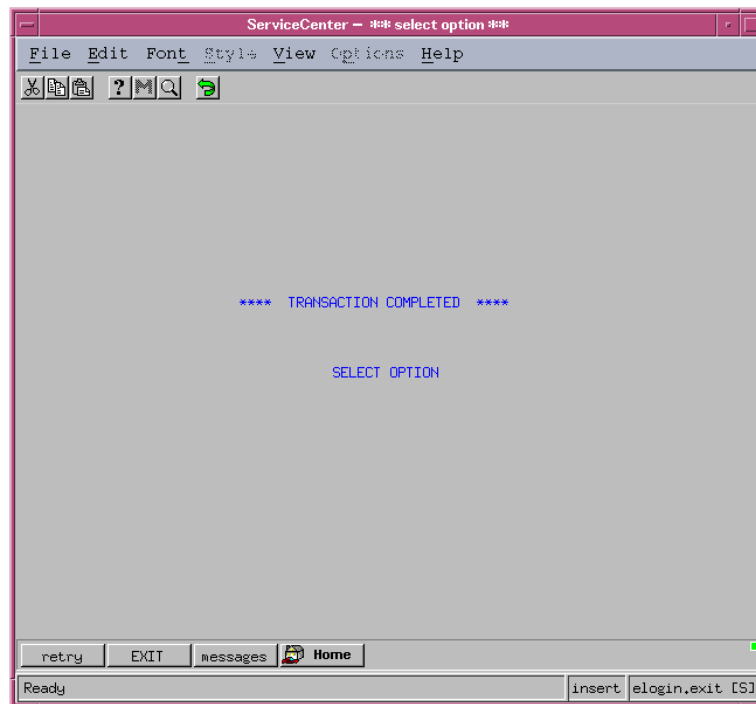

Figure 4-2 ServiceCenter Logout window
4. When the logout window is displayed (Figure 4-2), select the **EXIT** button from the popup menu or press F1 to exit the ServiceCenter session.